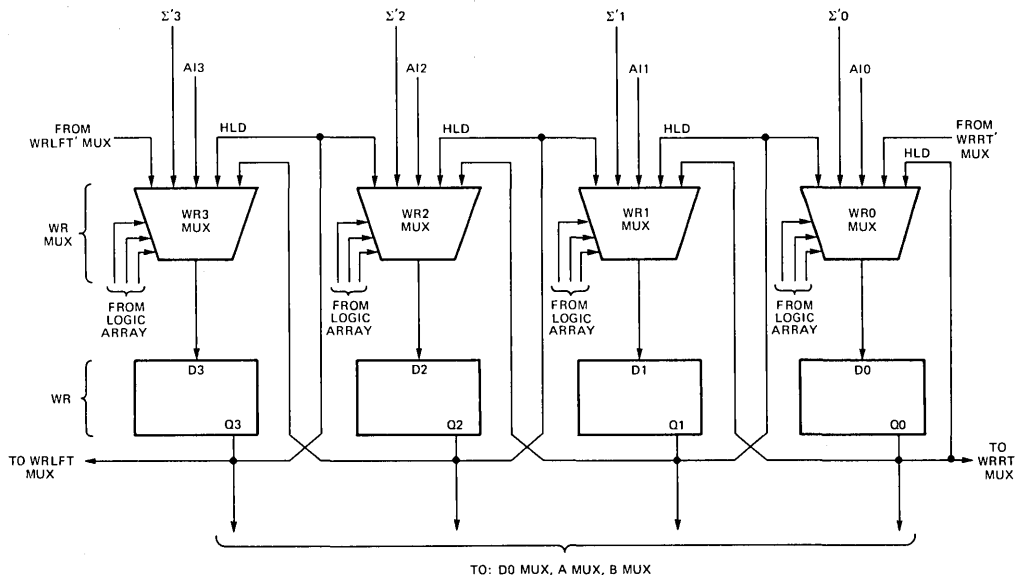

FIGURE 10 – WORKING REGISTER (WR) AND WR MULTIPLEXER
The working register (WR) is a 4-bit D-type register which functions as an accumulator during iterative arithmetic operations or as a temporary holding register for intermediate operands (see Figure 10). It is sourced by the WR multiplexer. Storage of setup data, under control of the resident operation forms which permit the WR to be a destination, occurs on the positive transition of the clock. WR shifting capabilities are implemented in the WR multiplexer. The working register can be selected to source the data-out port multiplexer (DO MUX), A-input multiplexer (A MUX), or B-input multiplexer (B MUX). The MSB of the WR is sourced to the WRLFT MUX, and the LSB of the WR is sourced to the WRRRT MUX to facilitate expansion.
The working register multiplexer provides source selection, including the bidirectional shifting capability, for the working register. See Figure 10. Under direction of the resident operation, the WR MUX asynchronously selects either: